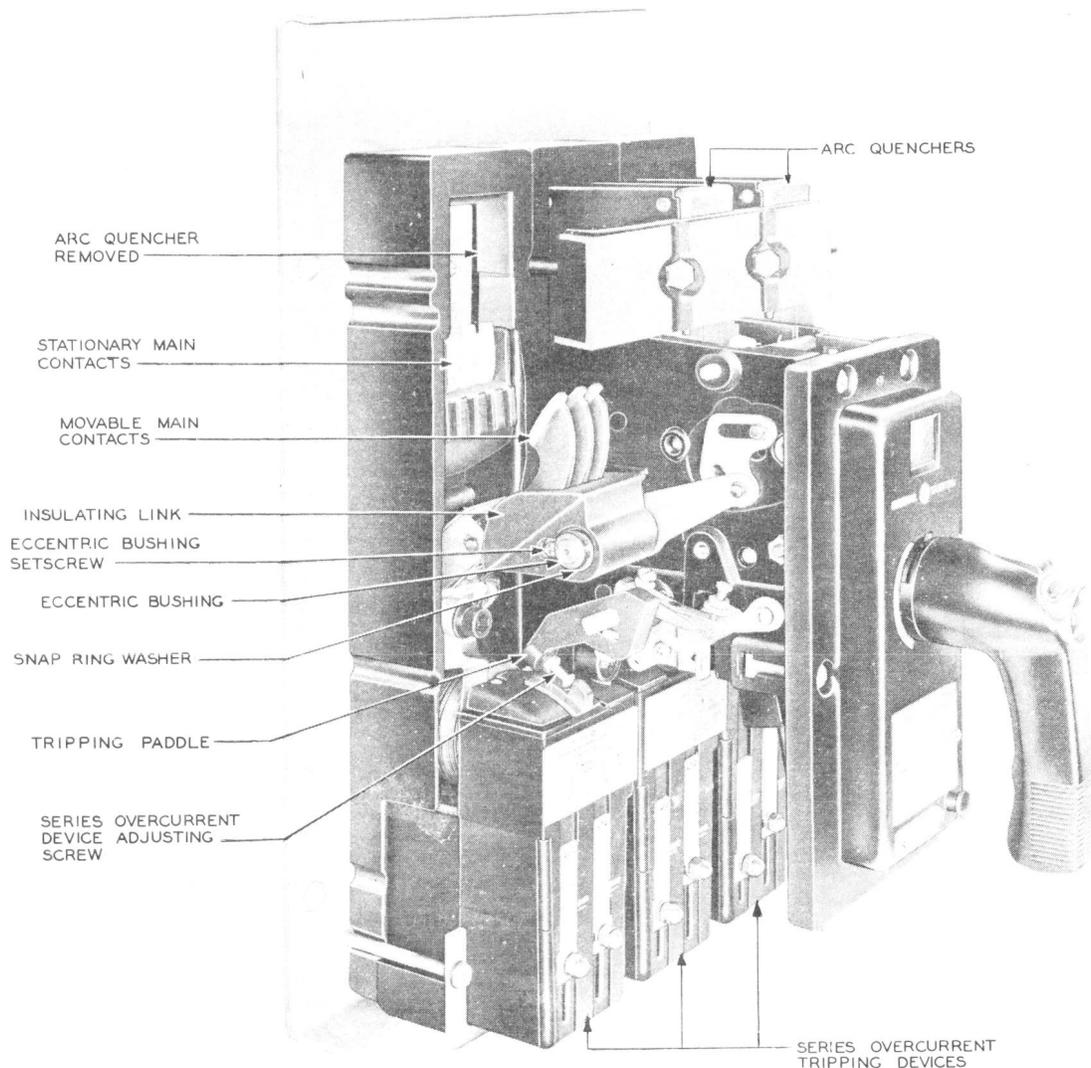

Fig. 3 — Breaker With First Arc-quencher, Rotary Auxiliary Switch, and Closing Solenoid Not Shown — Main Contacts in Open Position
#2.05 Contact Pressure: See Fig. 3— The contact pressure of the main contacts shall be between 4 and 11 pounds (approximately 1800 and 5000 grams) for reliable contact.
#2.07 Arc Quenchers: See Fig. 3— The arc quenchers are provided to prevent damage to other parts of the breaker when a severe
(1) The main contacts as shown in Fig. 3 may become pitted or burned after the breaker has opened several times due to short circuits. Clean, smooth, or replace contacts, as required.